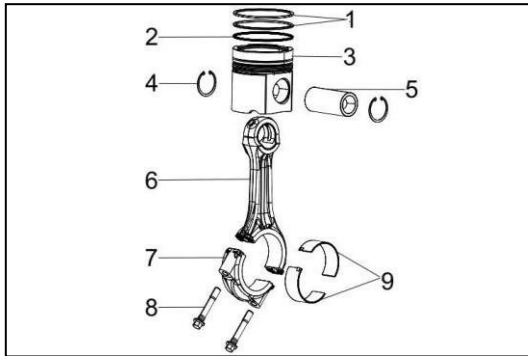

Figure 128
2. Carefully clean the ring grooves of the piston (Figure 128, 3). Fit the piston rings (Figure 128, 1 & 2) with the special tool.
4. Check all the connecting rods (Figure 128, 6) and make sure that the connecting rods are in the same weight group.
5. Fit the 1st circlip (Figure 128, 4) onto one end of the piston shaft.
6. Lightly oil the bore openings and insert the piston pin (Figure 128, 5) into the first part of the bore.